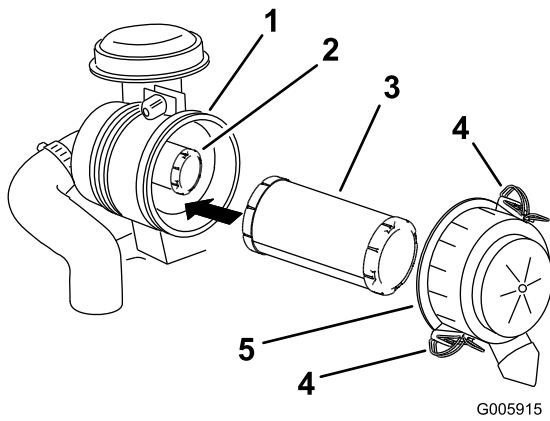

Figure 46
3. Release the latches on the air cleaner, and pull the air-cleaner cover off the air-cleaner body (Figure 46).
5. Gently slide the primary filter out of the air-cleaner body (Figure 46).
- Secure the cover with the latches (Figure 46).
- If the inner filter is being replaced, carefully slide it into the filter body (Figure 46).
- Carefully slide the primary filter over the inner filter (Figure 46).